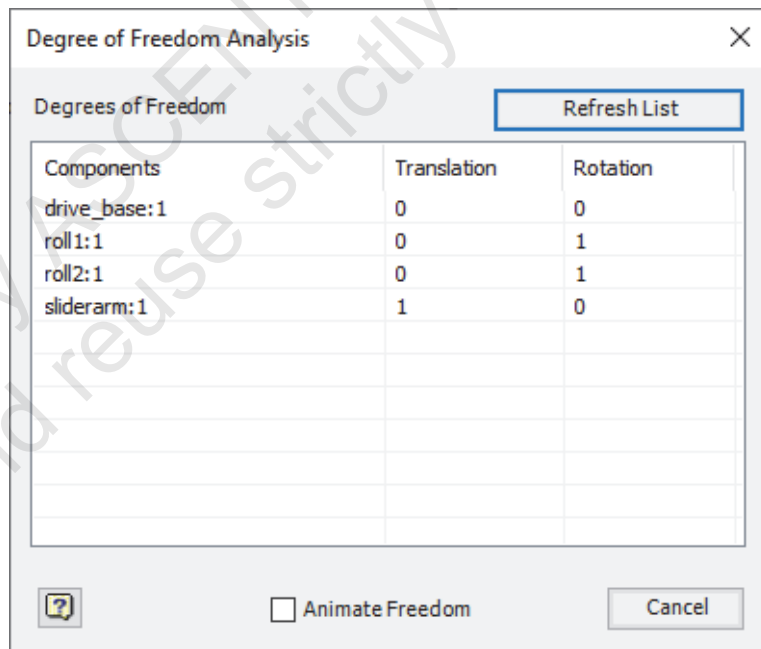

Figure 1–16
5. As an alternative to simply displaying the degrees of freedom for the components, you can run an analysis. In the *Assemble* tab>expanded Productivity panel, click  (Degree of Freedom Analysis). The Degree of Freedom Analysis dialog box opens, as shown in Figure 1–16. The **sliderarm** can translate, and the **roll1** and **roll2** components can rotate.